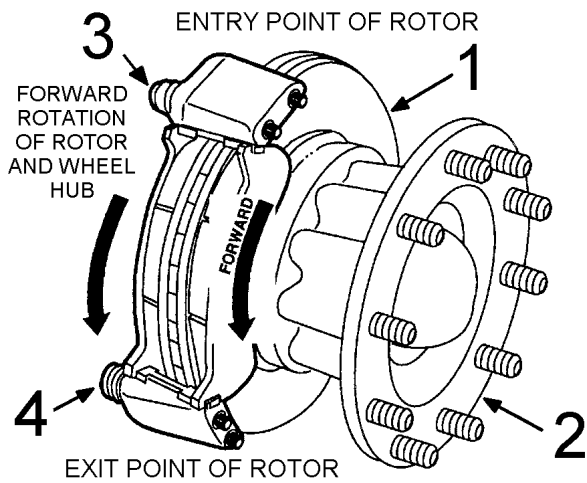

Figure 56 Forward Rotation of Rotor and Wheel Hub
4. Before installing leading guide pin and trailing guide pin with rubber bushing, determine which anchor plate guide pin bore is the leading guide pin bore and which is the trailing guide pin bore. Leading guide pin bore position and trailing guide pin bore positions of the anchor plate are based on the forward rotation of the rotor and wheel hub (Items 1 and 2, Figure 56) (See Figure 56, page 60).
- a. Leading guide pin (Item 3, Figure 56) (See Figure 56, page 60) always goes in the anchor plate guide pin bore which is always the entry point of the caliper by rotation of the rotor in the forward direction, driver side shown.
- b. Trailing guide pin with rubber bushing (Item 4, Figure 56) (See Figure 56, page 60) always goes in the anchor plate guide pin bore which is always the exit point of the caliper by rotation of the rotor in the forward direction, driver side shown.
7. Repeat this procedure to install the trailing guide pin with rubber bushing (Item 4, Figure 56) (See Figure 56, page 60) and guide pin boot into the trailing guide pin bore position of anchor plate. It may be necessary to use a wrench on the trailing guide pin with rubber bushing to rotate it 1/4 to 1/2 turn and back